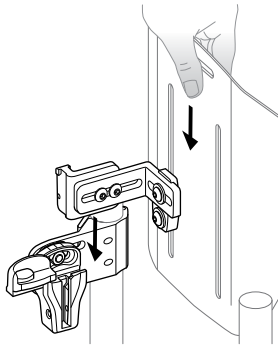

Fig. 15
3. Insert the Slide Brackets into the Holsters. *Fig. 15*